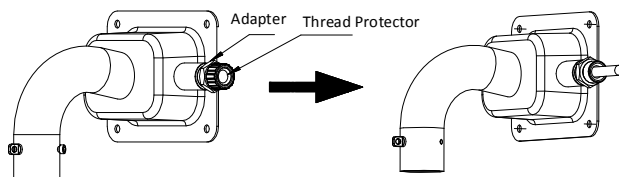

Figure 2-13 Seal the Cable Entry
2. Seal the cable entry by installing the protective steel tube on the adapter as shown in Figure 2-13.